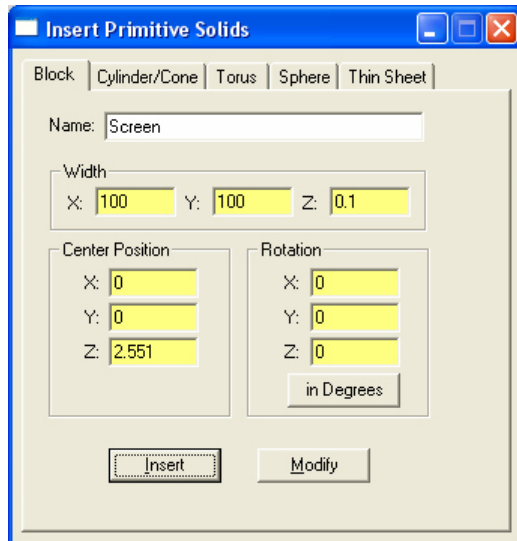

Figure 16. Parameters to Insert the Screen.
2. Enter the values as shown in Fig. 16,